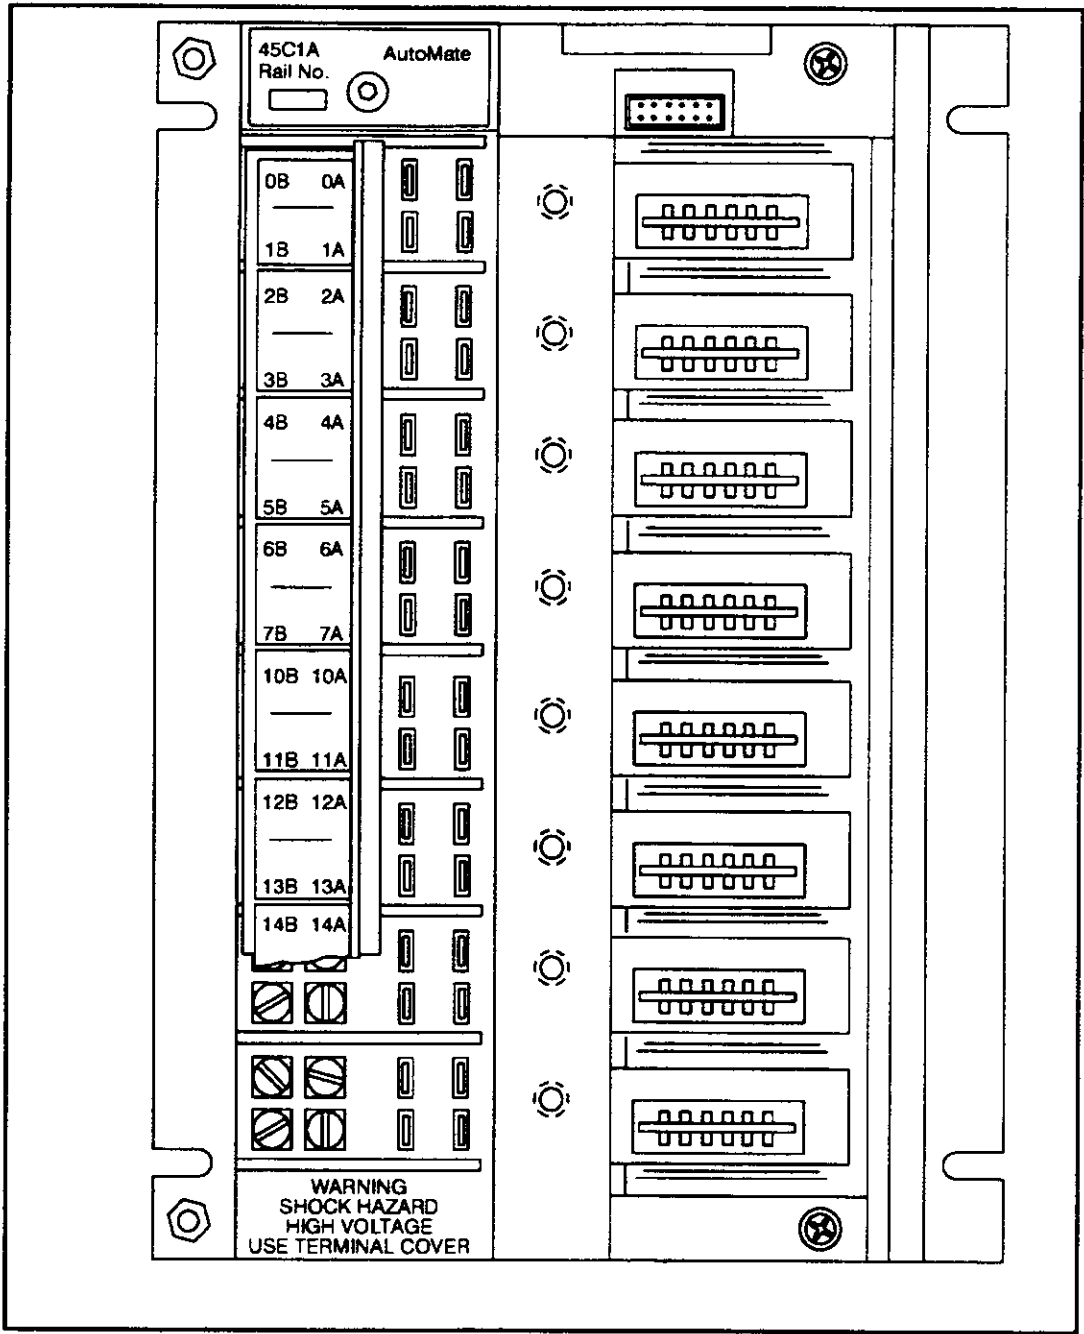

Figure 2.1 - I/O Rail (Front View)
The rail is made of aluminum and measures 9 inches (22.9 cm) (H) x 5.5 inches (14.0 cm) (W) x 7.5 inches (19.1 cm) (D). The terminal strip and I/O motherboard mount on the chassis as shown in figures 2.1 and 2.2. The chassis also serves as a heat sink for the I/O modules.